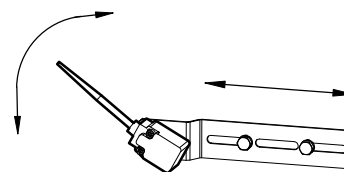

Figure 12: Mechanism Adjustment.
- Step 7. **Adjust** the position of the Stowage Stop mechanism, by loosening one of the M5 bolts, to where the liftgate power shuts off before hitting the deck extension (Figure 12).